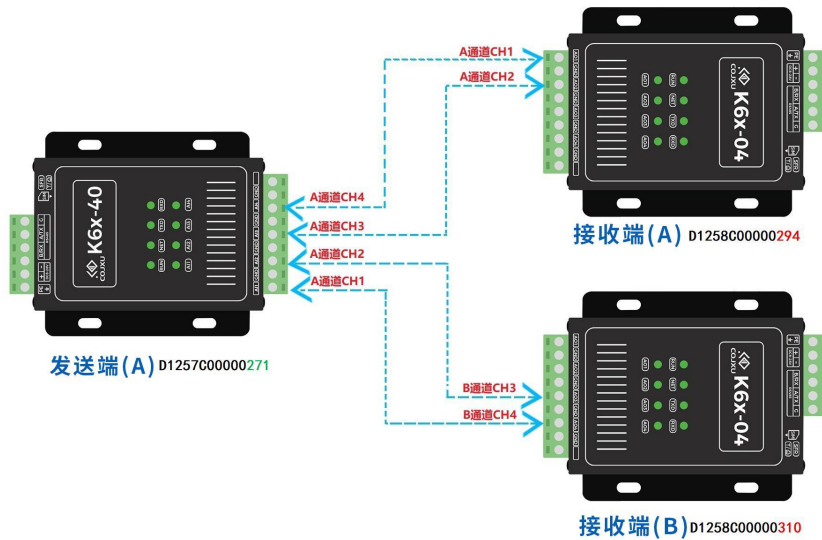

Figure 4-23 Channel self-organization (Example: 1 to 2 channel combination relationship)
B. Steps (as shown in the figure below): Open the "Interconnection Network IO Setting Tool" → select the correct COM port number and correct (default) parameters → click "Open Serial Port" (if the parameters have been changed and forgotten, you can restore the factory settings, follow the method One operation) → "Search/Read Device" → "4. Mode Configuration" → Select the pairing method as "Channel Self-Group" → Channel correspondence is shown in Figure 4-23 above; target S/N unique identification code and channel configuration Write as shown in Figure 4-24 below → click "Write" in "4. Mode Configuration" → observe the log column, prompting success → click "Save" → click "Restart" → Finish.
B. Open the "Interconnection Network IO Setting Tool" → select the correct COM port number and the correct (default) parameters → click "Open Serial Port" (if the parameters have been changed and forgotten, you can restore the factory settings, follow method 1) → "Search /read device" → "4. Mode configuration" → select the pairing method as "channel self-organization" → the channel correspondence is shown in Figure 4-23 above; the target S/N unique identification code and channel configuration are written as shown in Figure 4- 25 → Click "Write" in "4. Mode Configuration" → observe the log column, prompting success → Click "Save" → Click "Restart" → Finish.
B. Open the "Interconnection Network IO Setting Tool" → select the correct COM port number and the correct (default) parameters → click "Open Serial Port" (if the parameters have been changed and forgotten, you can restore the factory settings, follow method 1) → "Search /Read Device" → "4. Mode Configuration" → select the pairing method as "channel self-organization" → the channel correspondence is shown in Figure 4-23 above; the target S/N unique identification code and channel configuration are written as shown in Figure 4- 26 → Click "Write" in "4. Mode Configuration" → observe the log column, prompting success → Click "Save" → Click "Restart" → Finish.